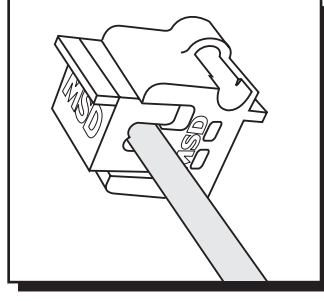

Figure 6 Aligning the Terminal in Tool.
4. Slide the other part of the Mini-Stripper-Crimper over the wire terminal and lightly press them together (Figure 6).